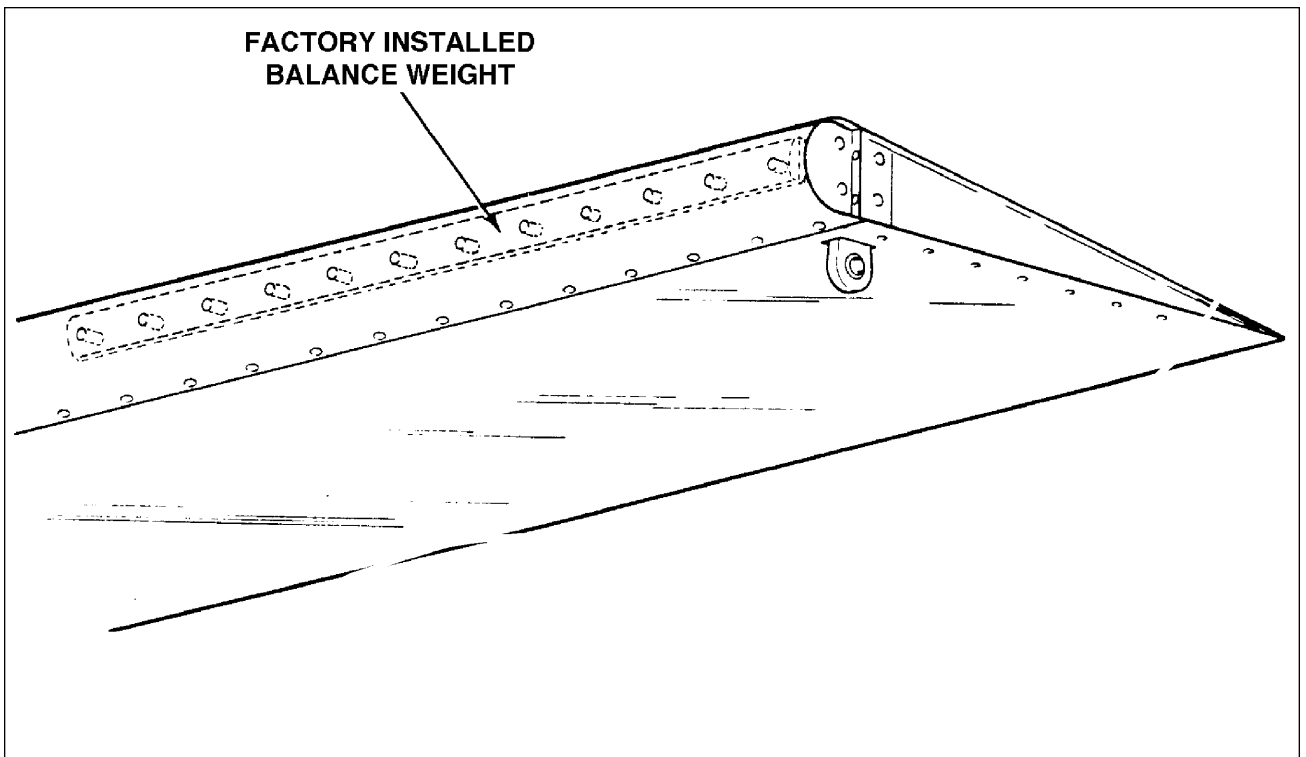

Figure 4-24. Factory Installed Aileron Balance Weight (1974 and 1975 Models Only)
- b. Trailing Edge Heavy: It will be necessary to determine the exact cause of the underbalance. If the aileron is too heavy because of paint build-up, it will be necessary to strip all paint from the aileron and repaint. If the aileron is too heavy resulting from repair to the skin or ribs, it will be necessary to replace all damaged parts and recheck the balance. There are *no provisions* for *adding* weight to the *factory installed balance weight* on 1974 and 1975 ailerons. (Refer to Figure 4-24.) Balance weights were not installed on 1976 and up models.